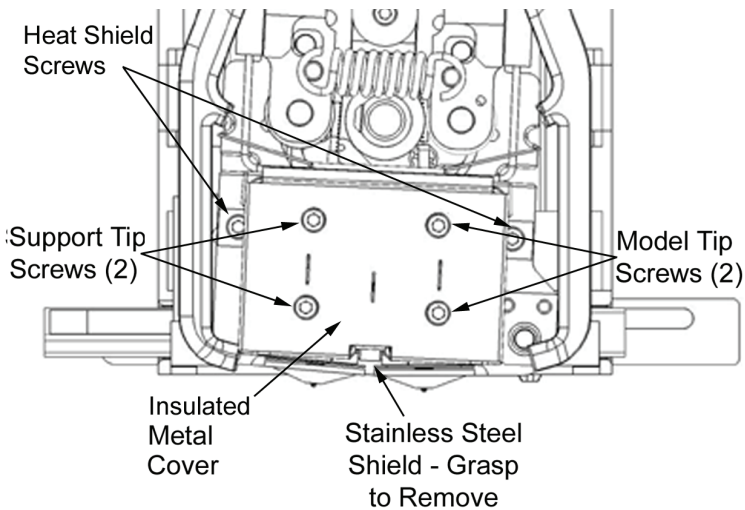

Figure 19: Tip Removal
(Figure 19 on page 50)
- 1. Remove the Heat Shield - loosen the 2 Heat Shield retaining screws (7/64 allen) (Figure 19 on page 50).